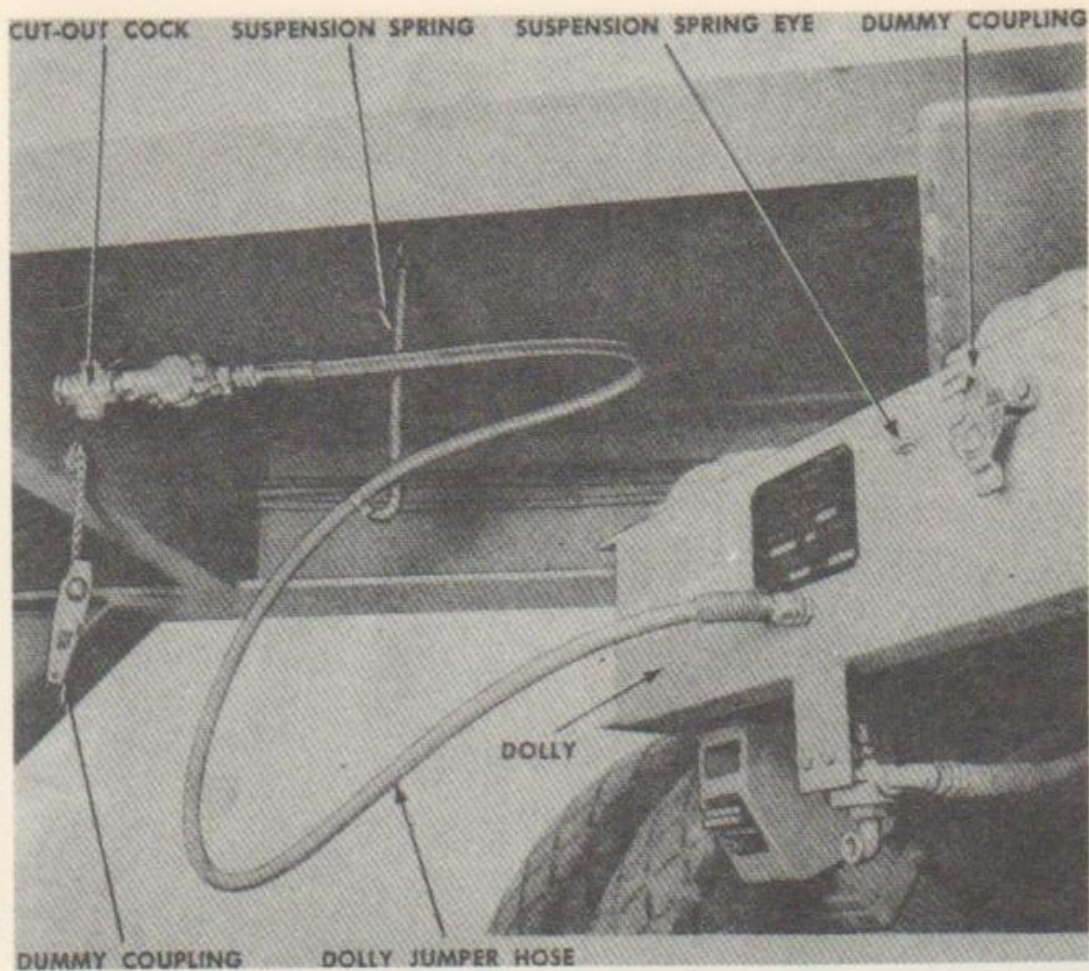

FIGURE 16. DOLLY JUMPER HOSE
a. **Location** (fig. 16). The dolly jumper hose is attached to the rear crossmember of dolly frame.
c. Remove dolly jumper hose (fig. 16) from dummy coupling. Remove suspension spring from eye bolt on dolly, and attach the suspension spring to the eye bolt on semitrailer. Couple the hose to coupling and open cut-out cock.